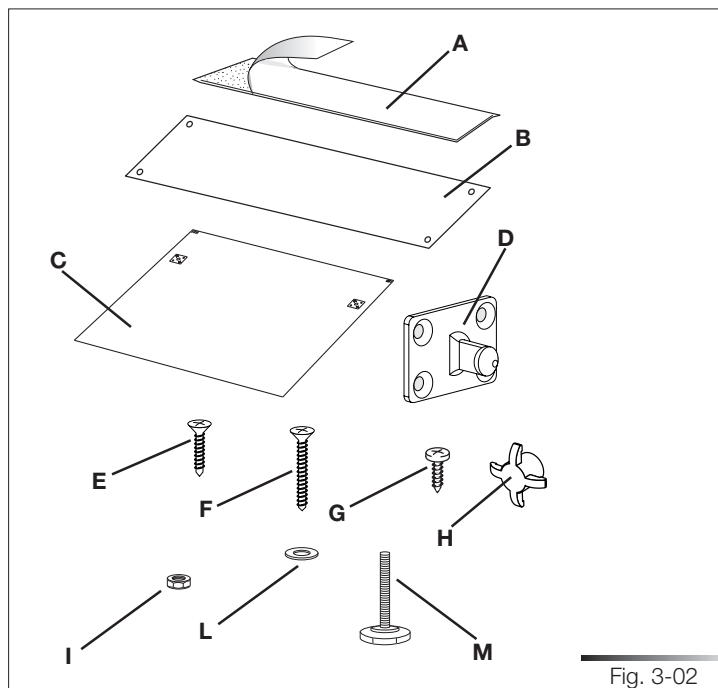

Fig. 3-02
- adhesive steam guard (ref. A fig. 3-02);
- 1 steel steam guard (ref. B fig. 3-02);*
- 1 template for door panel (ref. C fig. 3-02);
- 2 hooks for door panel (ref. D fig. 3-02);
- 8 screws for securing the door panel hooks (ref. E fig. 3-02);
- 2 screws for securing the door (ref. F fig. 3-02);
- 2 screws for fixing the dishwasher to the adjacent walls (ref. G fig. 3-02);
- 2 screw caps (ref. H fig. 3-02).
- 2 adjustment feet (only for some models) (ref. I fig. 3-02);
- 2 nuts (only for some models) (ref. L fig. 3-02);
- 2 washers (only for some models) (ref. M fig. 3-02).